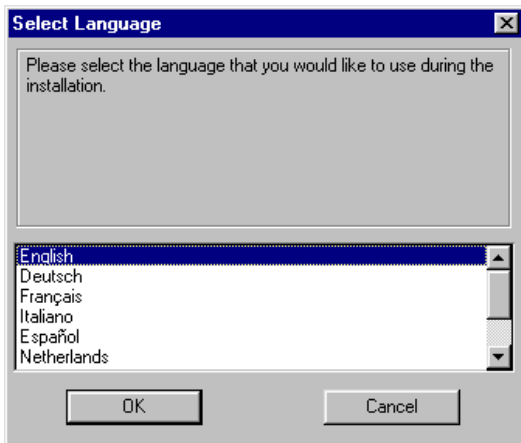

Figure 3: Selecting the language
4. In the command line, type [D:\START.EXE] and click on 'OK' (Figure 3) to start the installation.